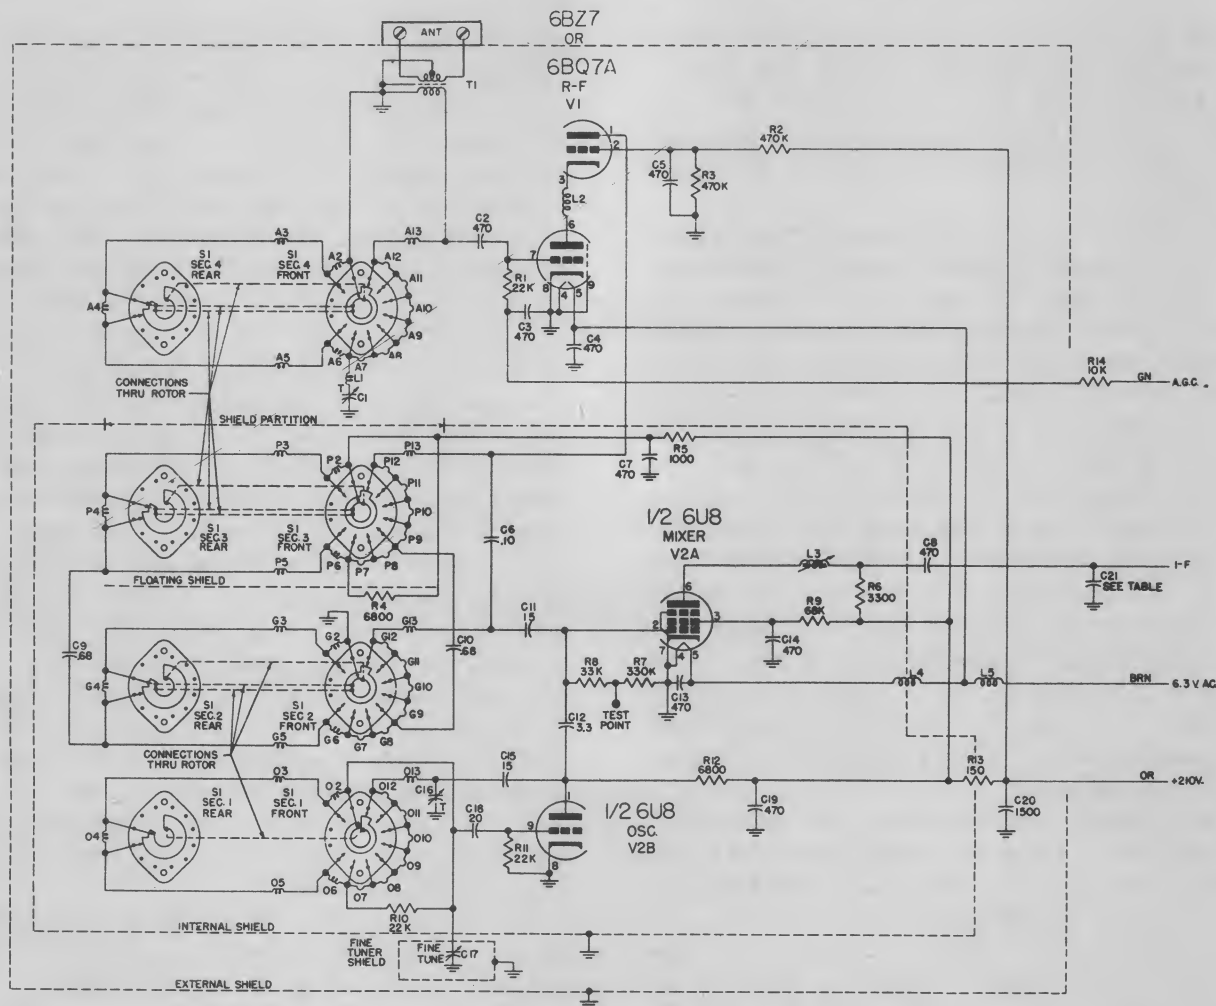

Fig. 9-3. Switch wafer vhf tuner: Magnavox 105 chassis.
*a. General.* Figure 9-3 is the schematic diagram of a switch wafer type of tuner, used in the Magnavox 105 chassis. The essential difference between this and the tuner just described is that the tuned coils are mounted at connector points on the ganged wafers of the switch. Tuning is accomplished by moving fingers on each wafer, which select the contactors. Another difference is that the channel coils are all wired in series on the wafers. Refer to Fig. 9-3 in which the Channel 13 position is shown. Antenna wafer shows that coil, A13, only is in the grid circuit of the r-f amplifier. The other coils are shorted by the grounded common finger. If the switch were moved to Channel 12, series coils, A13 and A12, would be in the circuit. The same arrangement holds for selection of the tuned circuits in the mixer and oscillator.